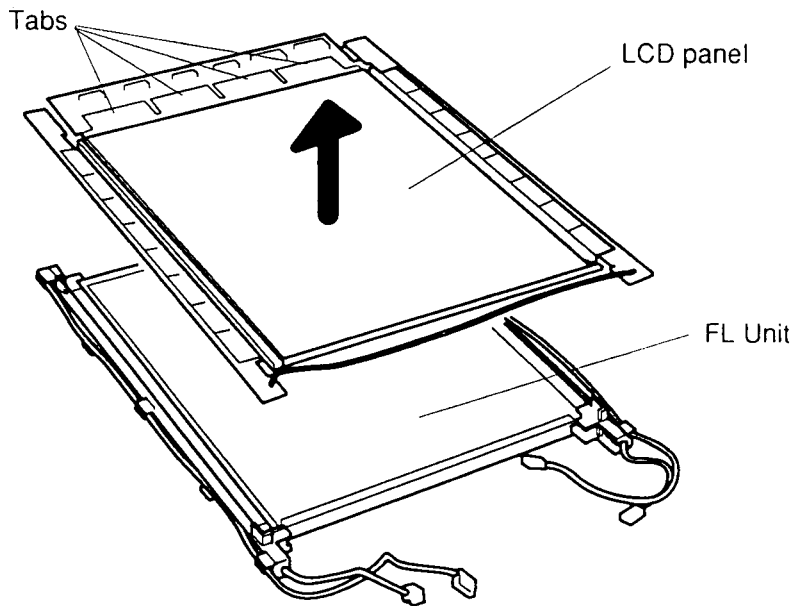

Figure 4-37 Removing the FL Unit from the Display Panel
8. Gently unsnap the **LCD panel** at the corners from the **FL unit** and lift it off the panel (Figure 4-37).
1. Place the **FL unit** on the **LCD panel** and press down at the corners to snap it into place (Figure 4-37).